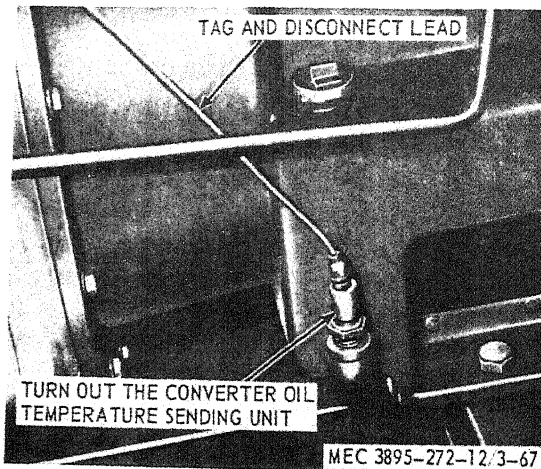

Figure 3-67. Torque converter oil temperature sending unit, removal and installation.
a. *Removal.* Remove the torque converter oil temperature sending unit as instructed on figure 3-67.
- (1) Clean the converter oil temperature sending unit with a cloth and approved cleaning solvent.
- (2) Inspect the unit for damage. Check for proper operation. Replace a defective unit.
c. *Installation.* Install the converter oil temperature sending unit in reverse of the instructions on figure 3-67.